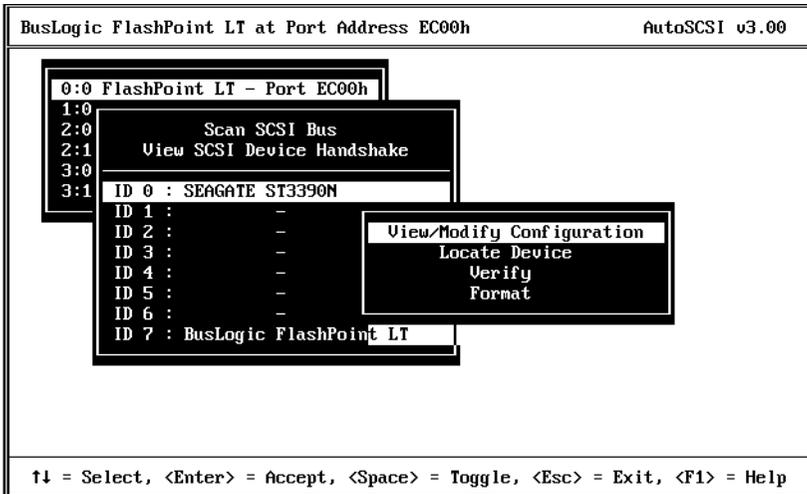

Figure 3-15. Device Configuration Menu
1. Use the arrow keys to highlight the device you wish to modify and press the <Spacebar>. The *Device Configuration* menu appear as shown in Figure 3-15.